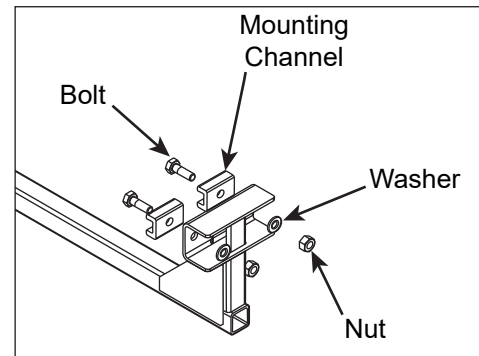

Figure 24: Fixed Webcam Arm Mounting
1. The webcam arm ships with all hardware and arm components. Remove the 5/8" nuts and washers from the arm assembly before installing the webcam arm. Refer to **Figure 24**.